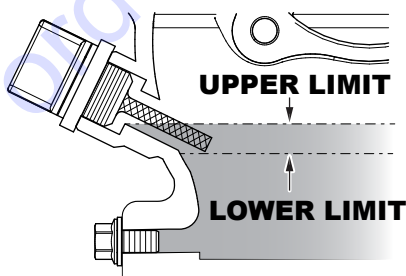

Figure 15. Engine Oil Dipstick (Oil)
4. If the oil level is low (Figure 15), fill to the edge of the oil filler hole with the recommended oil type (Table 5). Maximum oil capacity is 0.63 quarts (0.60 liters)